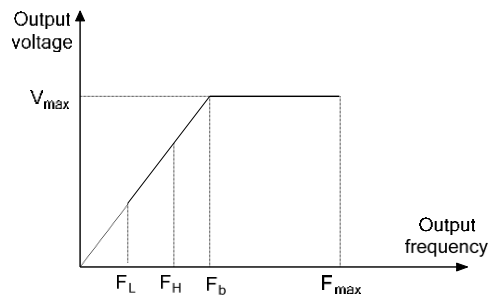

Fig. 6-9 Diagram for the definition of limit frequency parameters
The maximum output frequency is the allowable maximum output frequency of the drive, as Fmax shown in Fig. 6-9.
The upper limit frequency is the allowable maximum output running frequency set by the user, as FH shown in Fig. 6-9.
The frequency of lower limit is the allowable minimum running frequency set by the user, as FL shown in Fig. 6-9.
F_b in Fig. 6-9 is the basic running frequency, which is defined as the minimum value of corresponding output frequency when the drive output voltage reaches the maximum value under the A/F mode.
4. The relationship among the maximum output frequency, upper limit frequency and lower limit frequency is as shown in the above Fig. 6-9. Please pay attention to the size and order in setting.